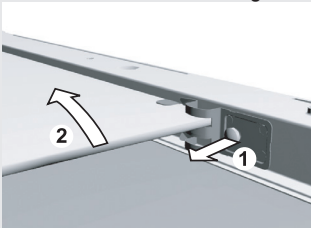

figure 2
- Interior glass (only in some models) is removed by first undoing the screws on the glass supports and then by lifting it (Figure 2). Remove the supports before cleaning the glass pane.